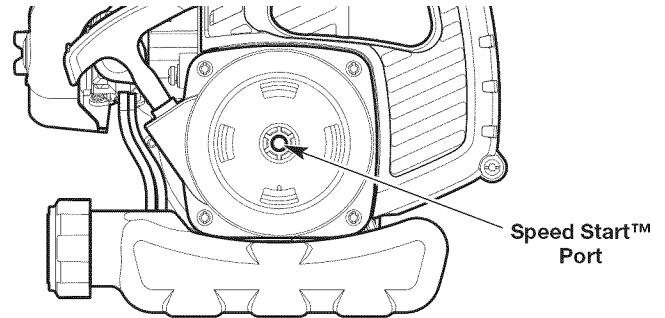

Fig. 12
6. **DO NOT** squeeze the throttle control. Insert the Speed Start™ accessory into the Speed Start™ port (Fig. 12). Refer to the *Operation* section of the Speed Start™ accessory operator's manual.